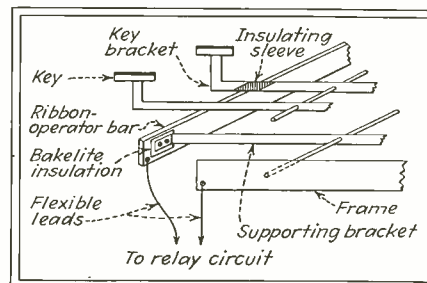

Fig. 2—Ribbon-bar contactor assembly
• Right FIGURE 2
Fig. 2—For best possible results an audio transformer should have a low reactive component (curve 1), so that the total transformer impedance (curve 3) will approximate the reflected a.c. resistance to the input source (curve 2). That AmerTran engineers have been successful in closely approaching the ideal condition in designs for Types PR and PS is demonstrated above.
A simple contact-making mechanism is used to close the relay circuit on all typewriters equipped with a ribbon-operator bar which is depressed each time any of the keys are operated. This bar must not function when the space-bar is touched. Figure 2 shows how the ribbon-operator bar mechanism is found on either Remington or Underwood noiseless portable typewriters, and the means for modifying the bar to act as a contacting device. Where this bar is not included in the mechanical complement an auxiliary one may be attached or a substitute contacting scheme devised. Observe that the rib-